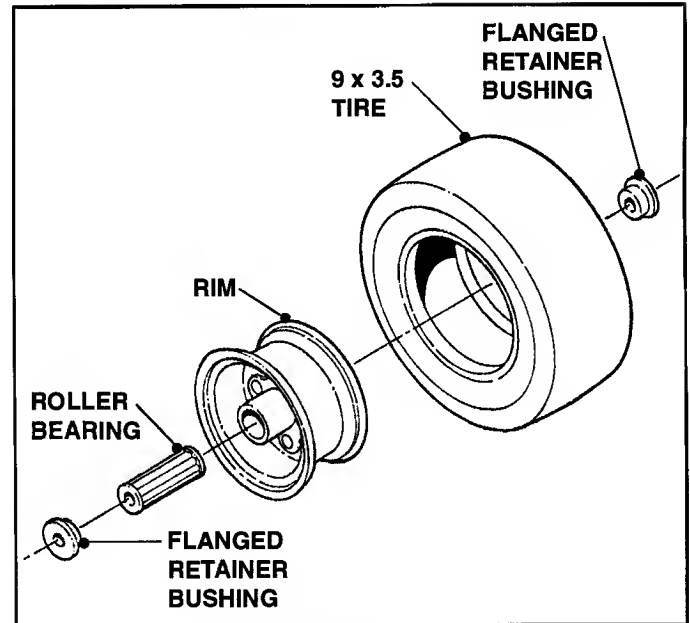

FIGURE 3.2
- D. Pull the flanged retainers out of the wheel hub or the rim. See Figure 3.2.